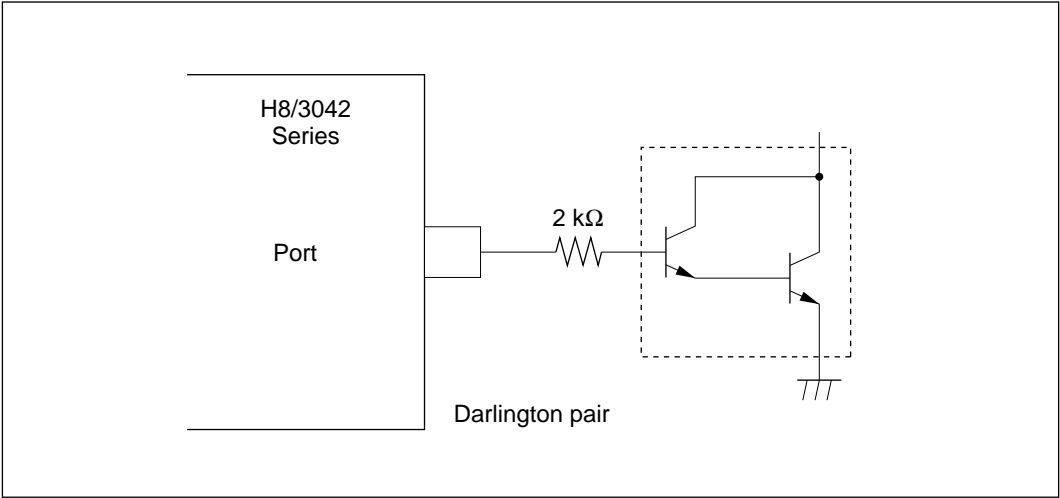

Figure 20-1 Darlington Pair Drive Circuit (Example)
2. When driving a darlington pair or LED, always insert a current-limiting resistor in the output line, as shown in figures 20-1 and 20-2.